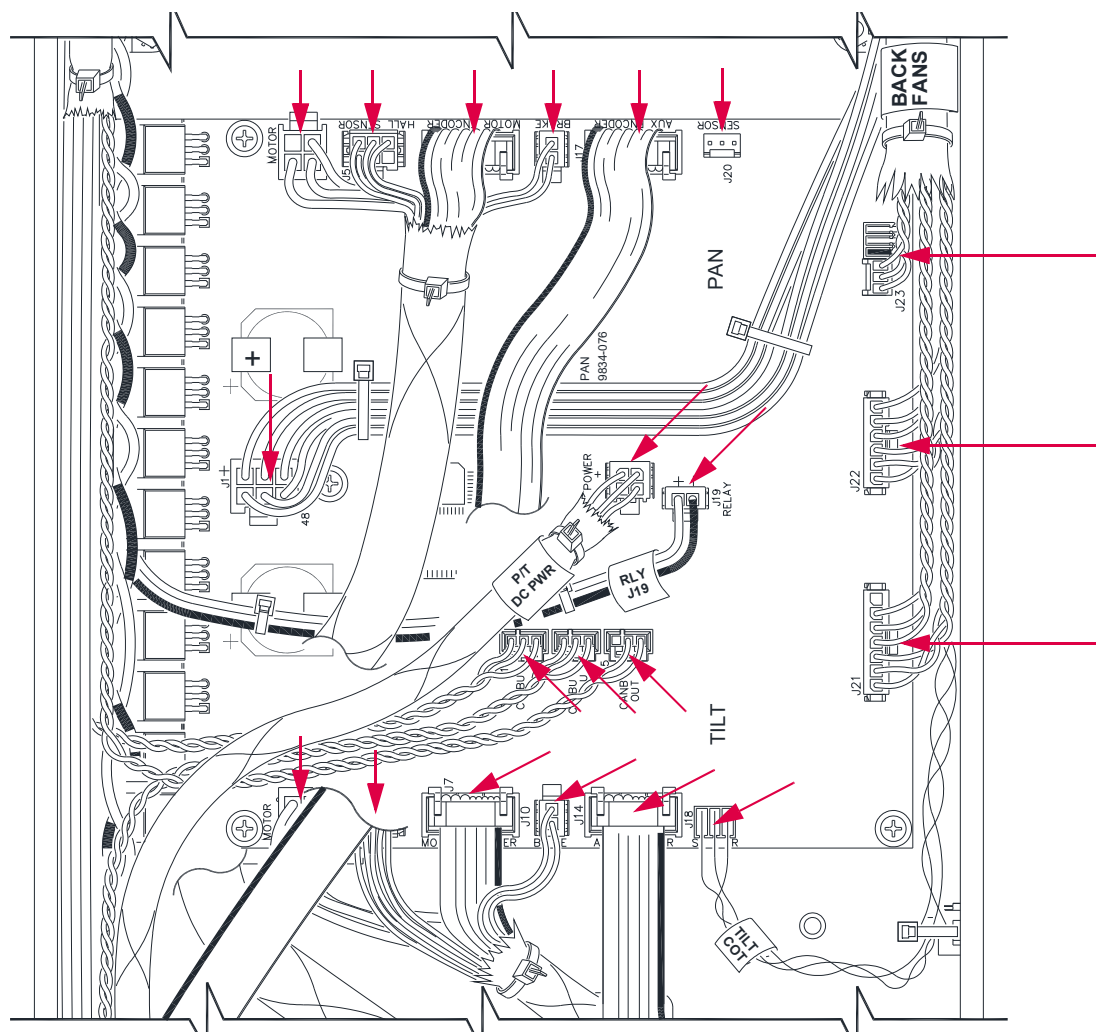

Figure 3-48: Pan/Tilt Driver PCB Wiring Diagram
- Step 3. Disconnect all connections from the Pan/Tilt Driver PCB card. See **Figure 3-48** below. Page the cables out of the way, gently.